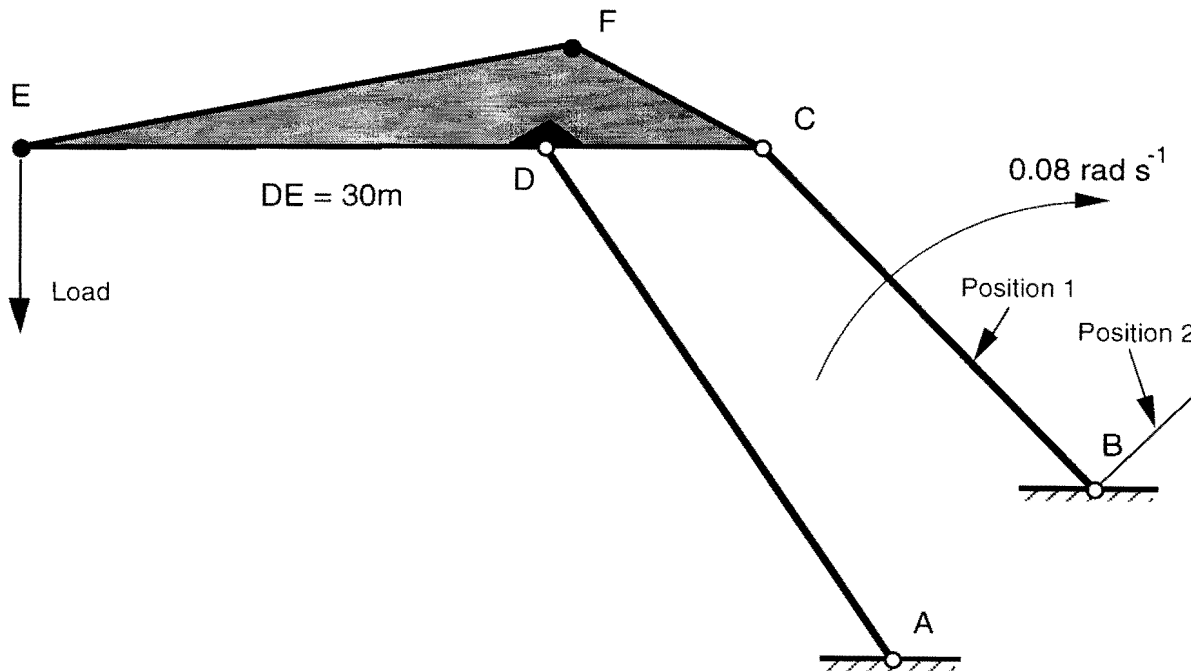

Figure 2
2. Figure 2, which is to scale, shows diagrammatically the space diagram of the operating links of a modern design of dockside crane (called a 'lemniscate' crane). As the link BC rotates clockwise at a constant rate of  $0.08 \text{ rads}^{-1}$  so the load, which is suspended from E, moves from left to right. Locate on the space diagram the position of E when BC is in position 2 shown in Fig. 2 and also when BC is midway between position 1 and position 2. What do you observe about the motion of E, and hence of the load, as BC rotates?
Using the instantaneous centre method, determine the magnitude of the velocity of E when BC is in position 1 and position 2, and also the magnitude of the velocity of F when BC is in position 1. DE is 30 m long and is horizontal in Fig. 2.